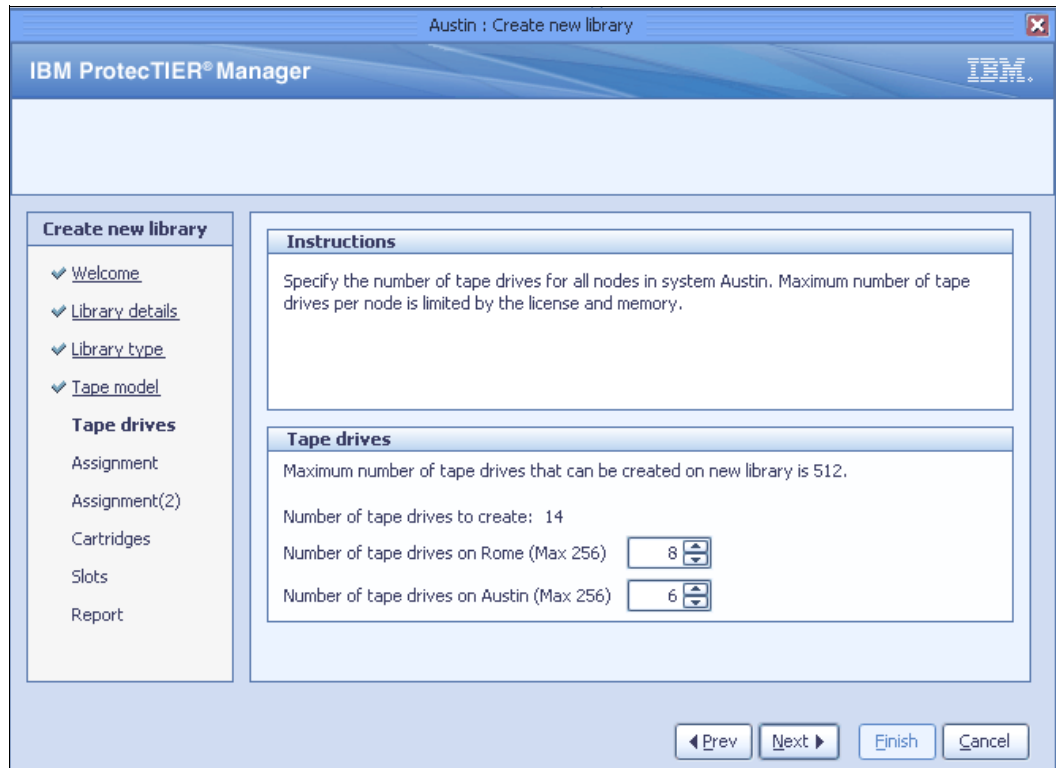

Figure 5-71 Create new library Tape Model window
- Click **Next**. The Tape drives window opens. In the Number of tape drives field for each node, enter the number of tape drives to assign to the node. To maximize load balancing, distribute tape drives across the nodes in a two-node cluster based on the relative power of the nodes (Figure 5-71).